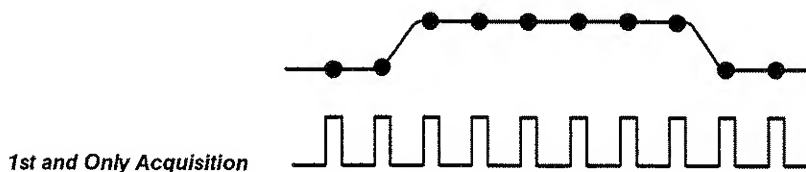

Figure 2-16: Real-Time Sampling
**Real-Time Sampling** — In real-time (RT) sampling, the oscilloscope digitizes all the points it acquires in one trigger event (Figure 2-16). Use real-time sampling to capture single-shot or transient events.